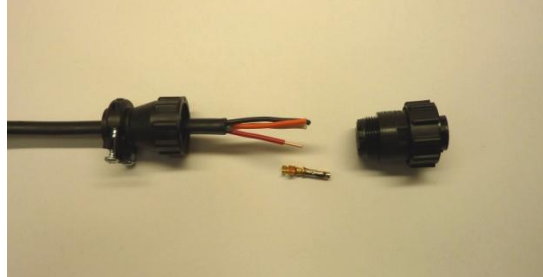

Figure 20: Slide connector onto cable before crimping.
Step 2: Slide the circular socket connector over the power cable as shown in Figure 20.